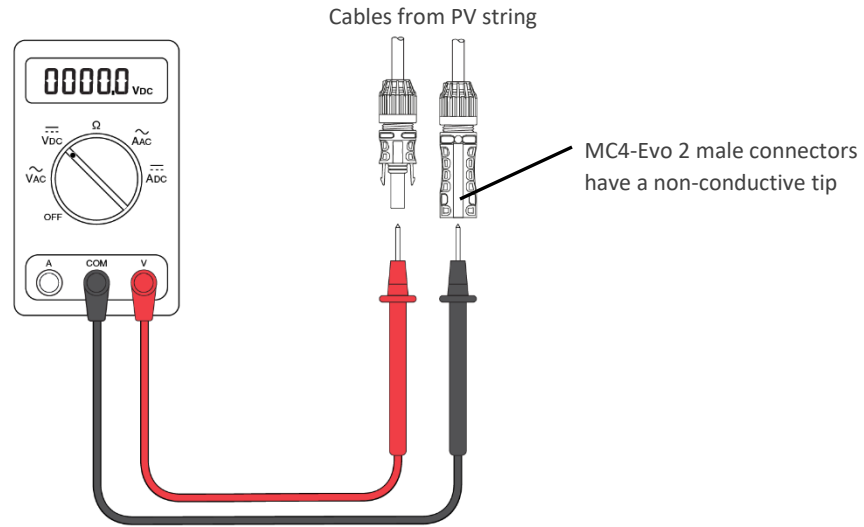

Figure 12: Check the polarity and gender for PV string
7. Follow your safety procedures and protocols and use an appropriately rated multimeter to measure the voltage and verify the polarity for the string(s) of modules being connected to Input 2. See Figure 12.